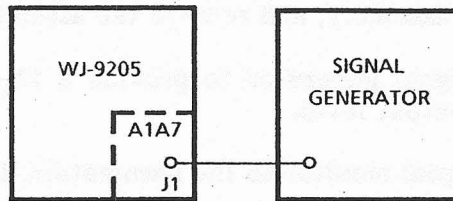

Figure 4-7. Converter/LOG Detector Alignment, Equipment Connections
2. Connect the test equipment as illustrated in **Figure 4-7**.
1. Connect the test equipment as shown in **Figure 4-7**.
1. Connect the test equipment as illustrated in **Figure 4-7**, extend the A1A8 assembly, and remove the assembly covers.
3. Connect the test equipment as illustrated in **Figure 4-7**.